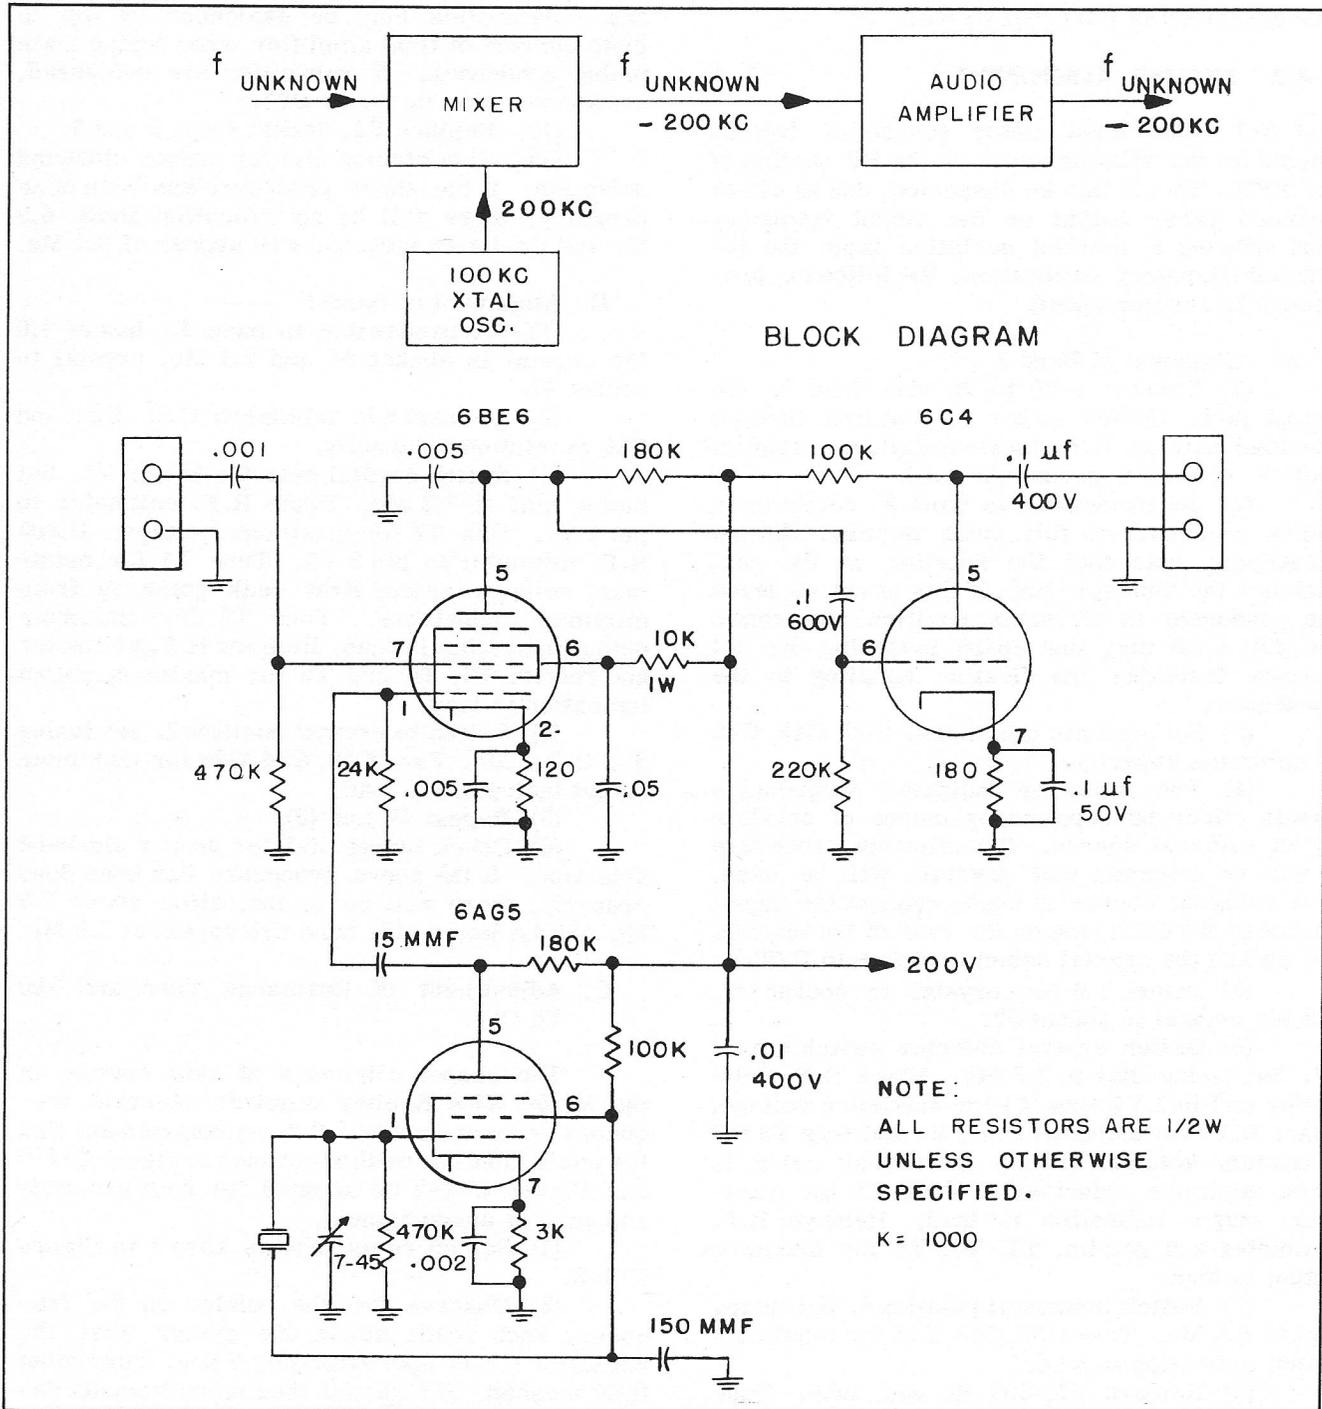
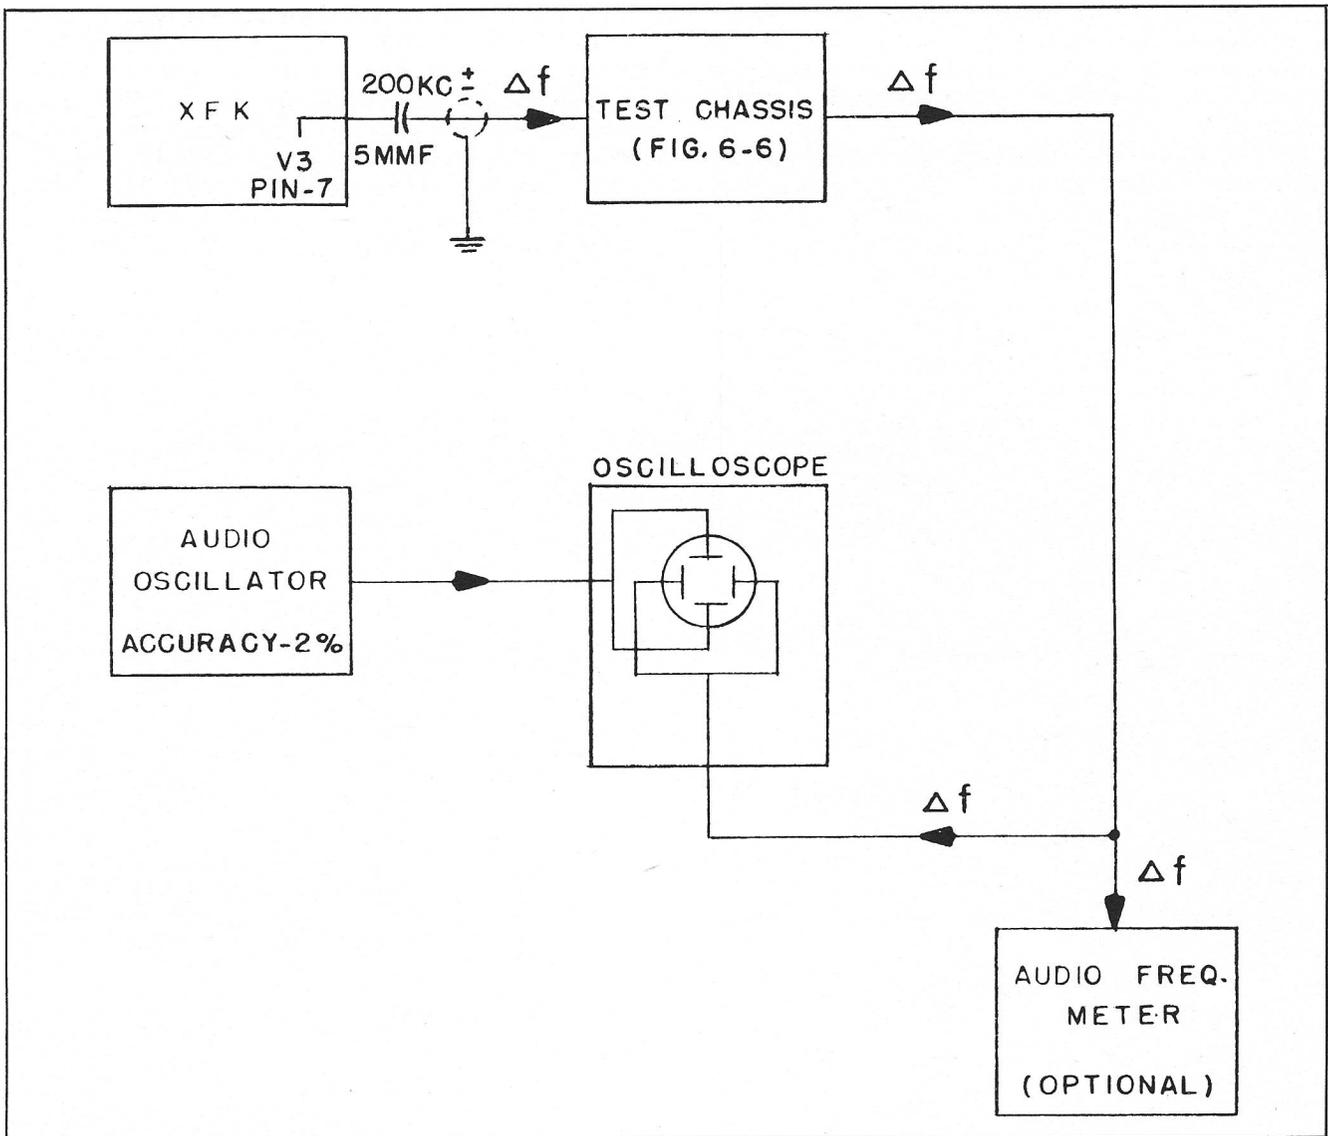

Figure C-4-1 Test Chassis
Figure C-4-2 Block Diagram
The proper alignment of this section of the Model XFK Exciter requires accurate frequency measurements. It is recommended that the equipment and method outlined in Figure C-4-1 and Figure C-4-2 be adopted for best accuracy and ease of measurement.
(1) Set up equipment as shown in Figure C-4-2.
(2) Observe that the pointer on the frequency knob reads minus 600 cycles when the capacitor C7 is approximately 7 deg. from being fully meshed. C7 should then move towards decreasing capacity as the knob is turned toward the plus 600 cycles position.
(3) Set "FAX-KEY" switch to "FAX". Return frequency knob to 0 cycles. By means of the coarse frequency adjust on the rear of the chassis, zero beat 200 Kc osc. with 100 Kc crystal in mixer.
(4) Connect a small variable voltage source (6v) to the "FAX" terminals on terminal board at rear of chassis. This source should be capable of alternately impressing equal positive and negative voltages at the "FAX" terminal.
(5) Set C2 at one-half its capacity. With zero voltage at "FAX" input terminal, zero beat 200 Kc osc. with mixer xtal. Apply sufficient positive voltage to cause a 500 cycle shift (app. 4 volts) Reverse polarity maintaining same amplitude. Note shift. If second shift is over 500 cycles slightly increase capacity of C2. RE-zero beat 200 Kc osc. with no input voltage, then repeat above procedure until both shifts are equal.